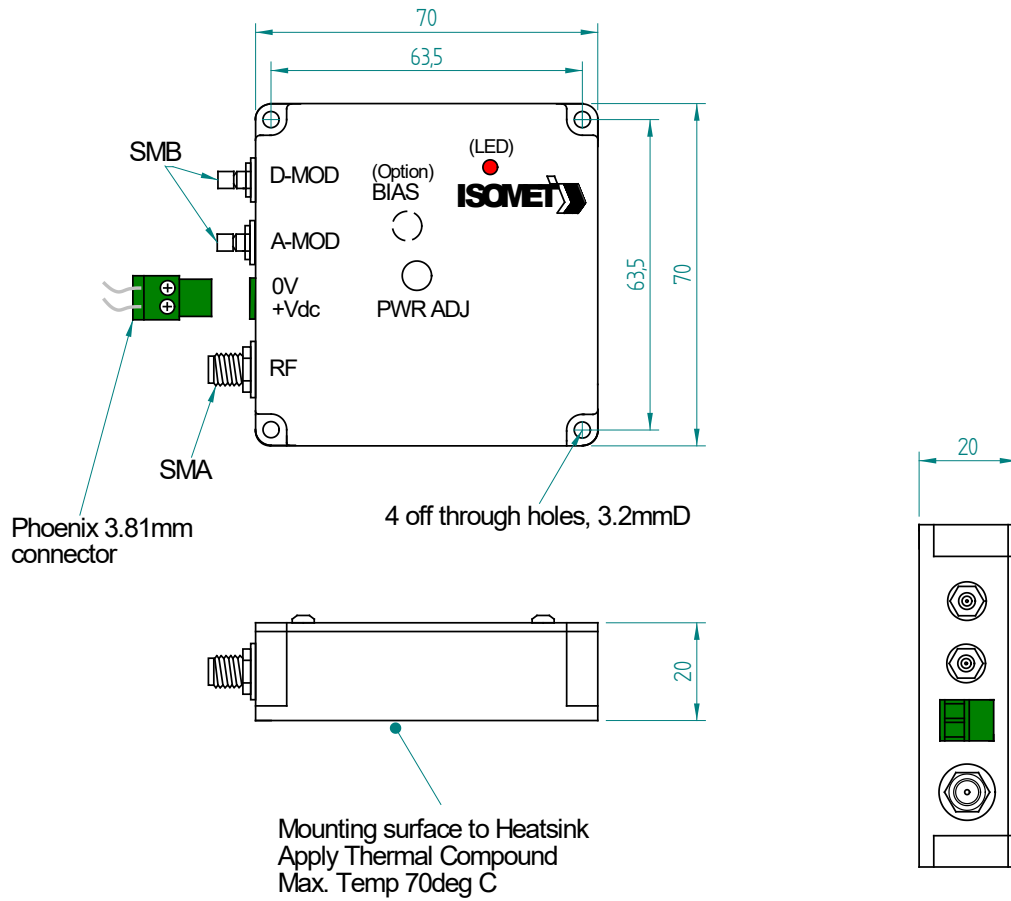

Figure 1: Driver Installation
- 3.1 Install the Driver on a heat sink as shown in figure 1. Use heat conducting compound between the Driver and mounting face and the heat sink.